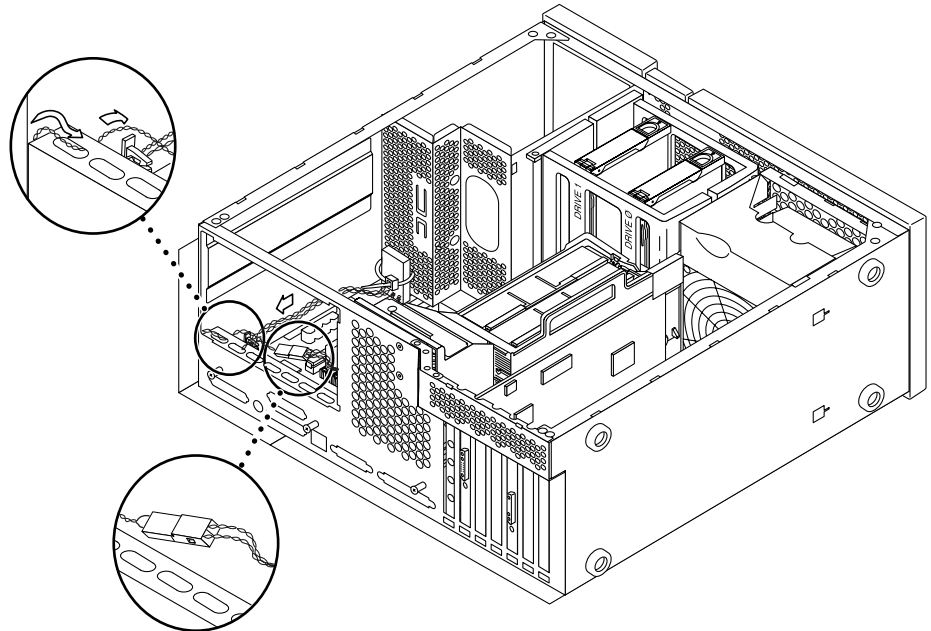

FIGURE 1-7 Routing the Rear Fan Power Connector Lead
6. Route the fan power connector lead through the large holes in the chassis as shown in FIGURE 1-7.